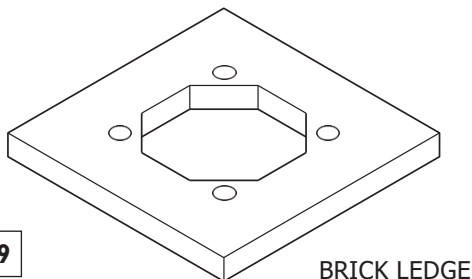

FIGURE 39
(1) If the horizontal distance from the roof ridge to the opening of the chimney is less than 10', the top of the chimney must be at least 2' above the roof ridge.
(2) If the horizontal distance from the opening of the chimney to the roof ridge is more than 10' then a chimney height "work point" is established on the roof surface 10' horizontally from the opening of the chimney. The top of the chimney must be at least 2' above this work point.
(3) In all cases, the chimney cannot be less than 3' above the roof at the edge of the chimney. (Figures 39 & 40)